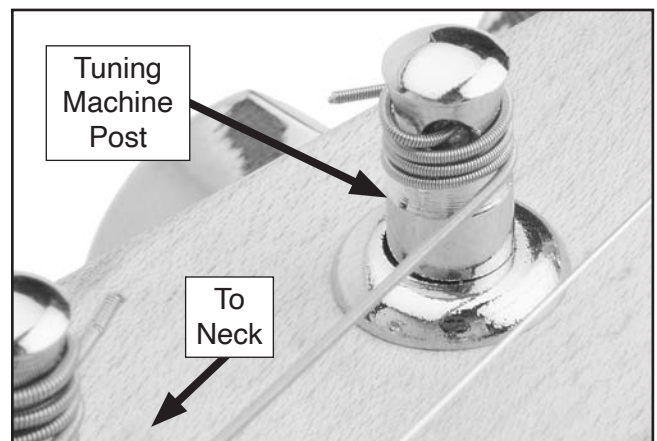

Figure 23. String wrapped around tuning machine post.
5. Rotate tuning machine until string just begins to hold winding tension (see **Figure 23**), and so string is on right side of tuning machine post.